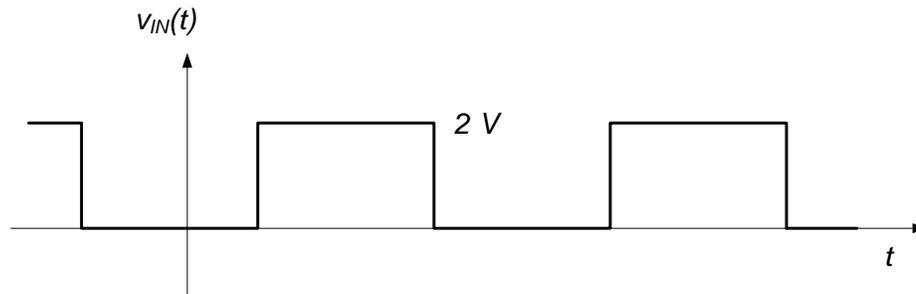
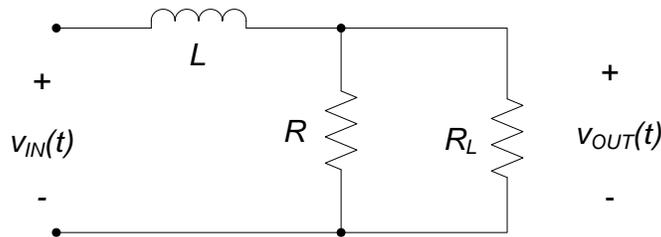

Figure 2. Input voltage signal.
Figure 3. Loaded passive RL circuit.
- i. Use a square wave input to the circuit to emulate a step function. The input step should have an amplitude which goes from zero to 2V (as shown in Fig. 2) and have a period which is long enough to allow the circuit to reach steady-state¹¹. Display both $v_{IN}(t)$ and $v_{OUT}(t)$ on your oscilloscope window. Record the image of the oscilloscope window, showing the waveforms and save the signals as a data file for later plotting¹².
- i. Apply a load to the RL circuit of Fig. 1 by constructing the circuit shown in Fig. 3. Use $R = R_L = 200\ \Omega$, and $L = 1\text{mH}$. Measure the output voltage across the load resistor, for the input voltage shown in Fig. 2. Sketch the input and output voltage signals in your lab notebook, and save the signals as a data file for later plotting.